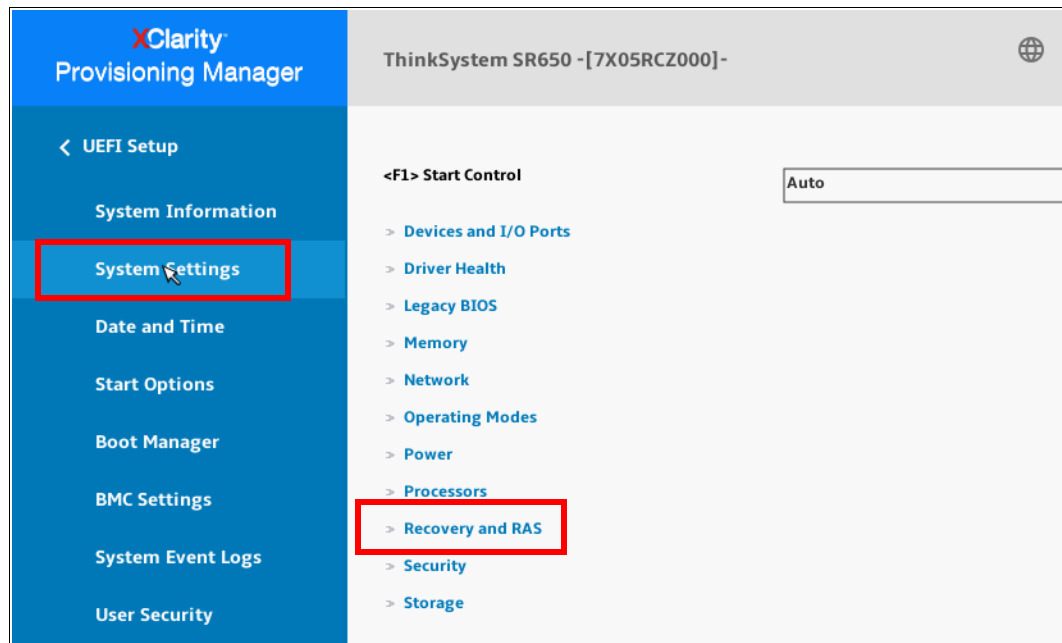

Figure 8 System Settings
2. From the left navigation menu, click **System Settings** → **Recovery and RAS** as shown in Figure 8.